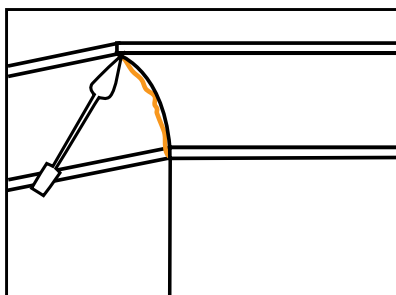

FIGURE 69 Mitres
- > Straight stop along cornice edge at wall and ceiling. Finish mitres using a small cornice tool [Figure 69]